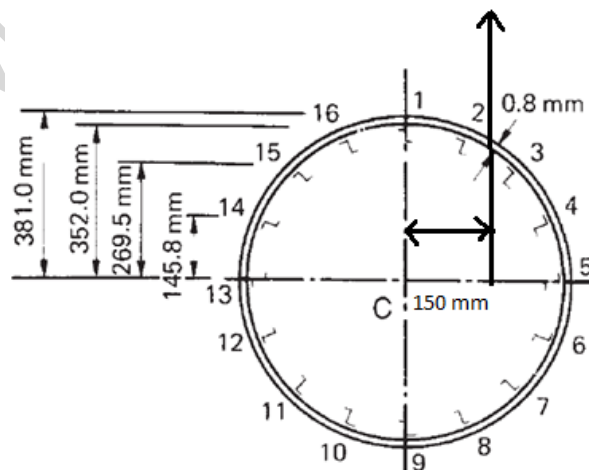

Fig.8
- 7 The fuselage of a light passenger carrying aircraft has the circular cross-section shown in Fig.8 below. The cross-sectional area of each stringer is 100 mm^2 and the vertical distances given in Figure below are to the mid-line of the section wall at the corresponding stringer position. If the fuselage is subjected to vertical shear load of 100 kN applied at a distance of 150 mm from the vertical axis of symmetry. Calculate the distribution of shear flow in the section.